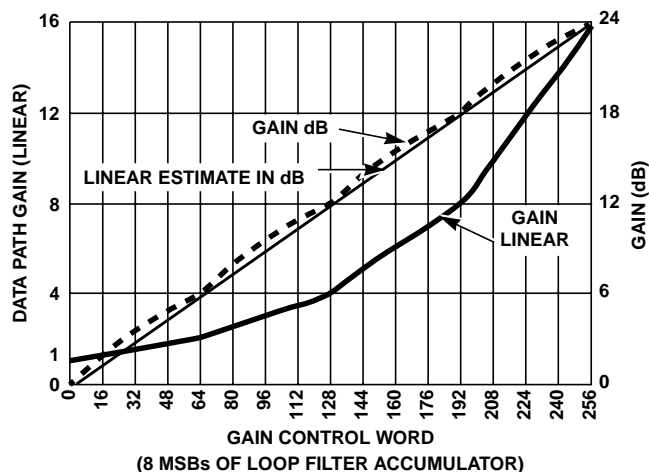

FIGURE 9. GAIN CONTROL TRANSFER FUNCTION
These equations yield a composite (mantissa and exponent) AGC output range of 0.0000 to 1.9844(23) which is a logarithmic range from 0 to 24dB. Figure 9 has graphed the results of Equation 8 for both the linear and logarithmic equations. Figure 9 also has a linear estimate of the logarithmic equation. This linear approximation will be used in calculating the AGC response time.
There are two techniques for setting a fixed gain for the AGC. The first is to set Control Word 2 bit 31 = 1. This precludes any error update of present AGC gain value. The second is to set the upper and lower AGC limits to the desired gain using Figure 9. The upper and lower limits have the same value for this case.
The AGC loop response is a function of the programmable gain, the bit weightings inherent in the connection of each element of the loop, the AGC Loop filter limits and the magnitude of the input gain error step. Table 6 details the bit weighting between each element of the AGC Loop from the error detector through the weighting at the gain adjuster in the signal path. The AGC Loop Gain sets the growth rate of the sum in the loop filter accumulator. The Loop filter output growth rate determines how quickly the AGC loop traces the transfer function shown previously in Figure 9. To calculate the rate at which the AGC can adjust over a given period of time, a gain step is introduced to the gain error detector and the amount of change that is observed between clocks at the AGC Level Adjusters (multipliers) is the AGC response time in dB per symbol. This AGC loop will respond immediately with the greatest correction term, then asymptotically approach zero correction.
A limiter is provided on the lag accumulator output to keep the baseband sample rate within a user defined range (see Table 29 and Table 30). If the lag accumulator exceeds either the upper or lower limit, the accumulator is loaded with the limit. For additional loop filter control, the loop filter output can be frozen by asserting the FZ\_ST pin which null the sampling error term into the loop filter. The lag accumulator can be initialized to a particular value and can be read via the microprocessor interface as described in the Section "Reading from the Microprocessor Interface", and Table 33. The symbol tracking loop filter bit weighting is identical to the carrier tracking loop bit weighting, shown in Figures 9 and 10.